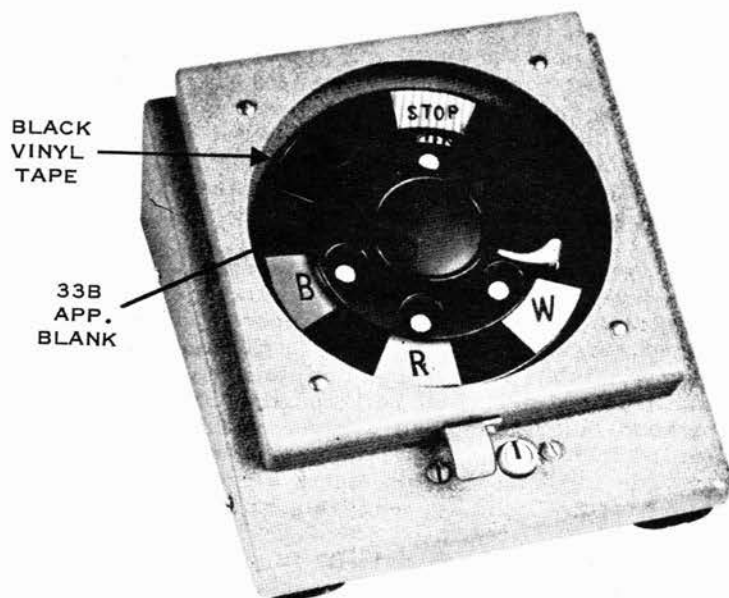
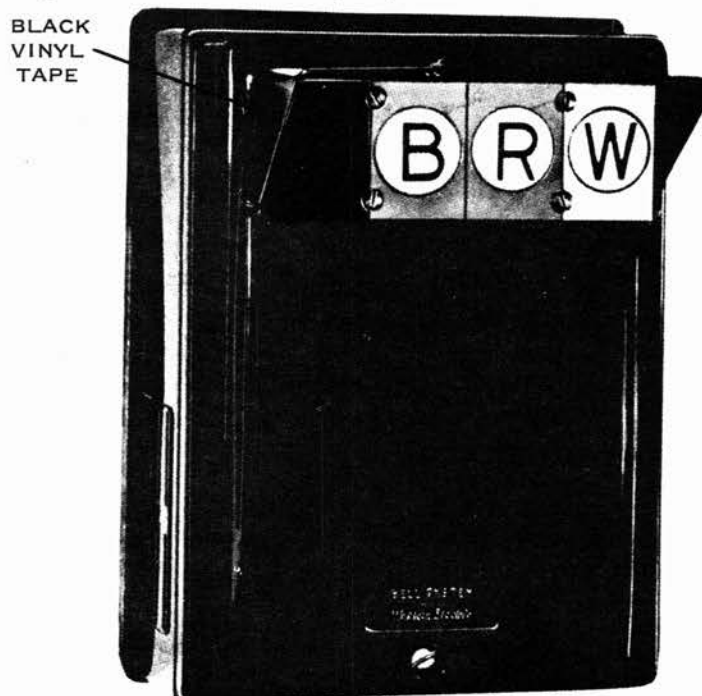

Fig. 1 - CADW Dial with Cover Closed
Fig. 2 - CADW Station Signal Indicator
1.04 Equipment at the control locations consists of a special dial (Fig. 1) and a station signal indicator (Fig. 2) arranged to provide coded visual signals, as well as the associated coded or noncoded audible signals. At the warning stations, either the station signal indicator which incorporates the audible signal or an audible-only signal is installed.
Fig. 2 is a modified 531A subscriber set having four 359A cold cathode electron tubes with several resistors. The tubes protrude through an opening in the subscriber set cover, and are protected by a plastic designation strip which diffuses the tube brilliance through a translucent window. The set is so wired that the signal dialed lights the corresponding tube.
5.03 *At locations with CADW Dial (Fig. 1):*
5.04 *At locations with CADW Station Signal Indicator, trim black vinyl tape to cover (Y) Indicator as shown in Fig. 2.*